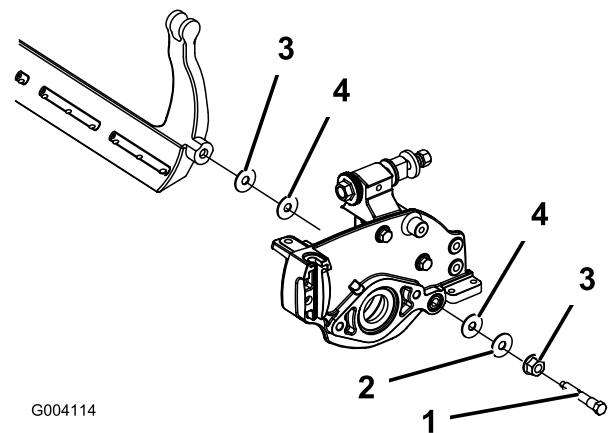

Figure 63
4. Remove each bedbar bolt allowing bedbar to be pulled downward and removed from machine. Account for 2 nylon and 2 stamped steel washers on each end of bedbar (Figure 63).